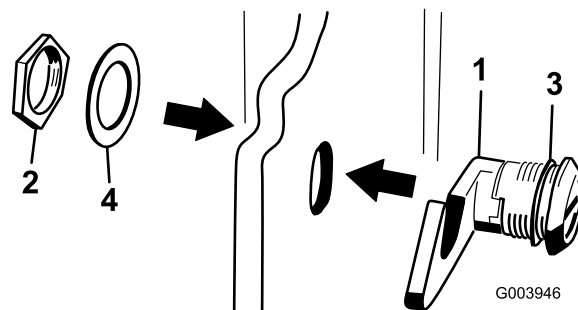

Figure 17
3. Remove the nut from the hood-latch assembly (Figure 17).